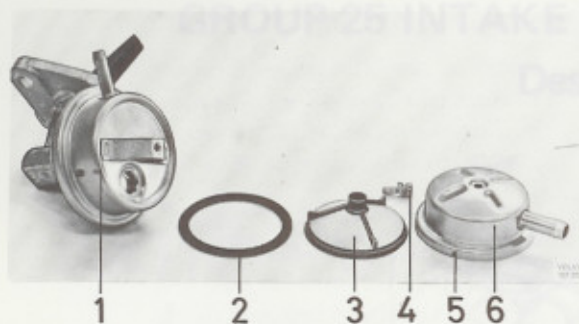

Fig. 23-34. Pierburg fuel pump
1. Remove the cover retaining screw (1, Fig. 23-34). Lift off the cover (6), the filter (3) and the seal (2).